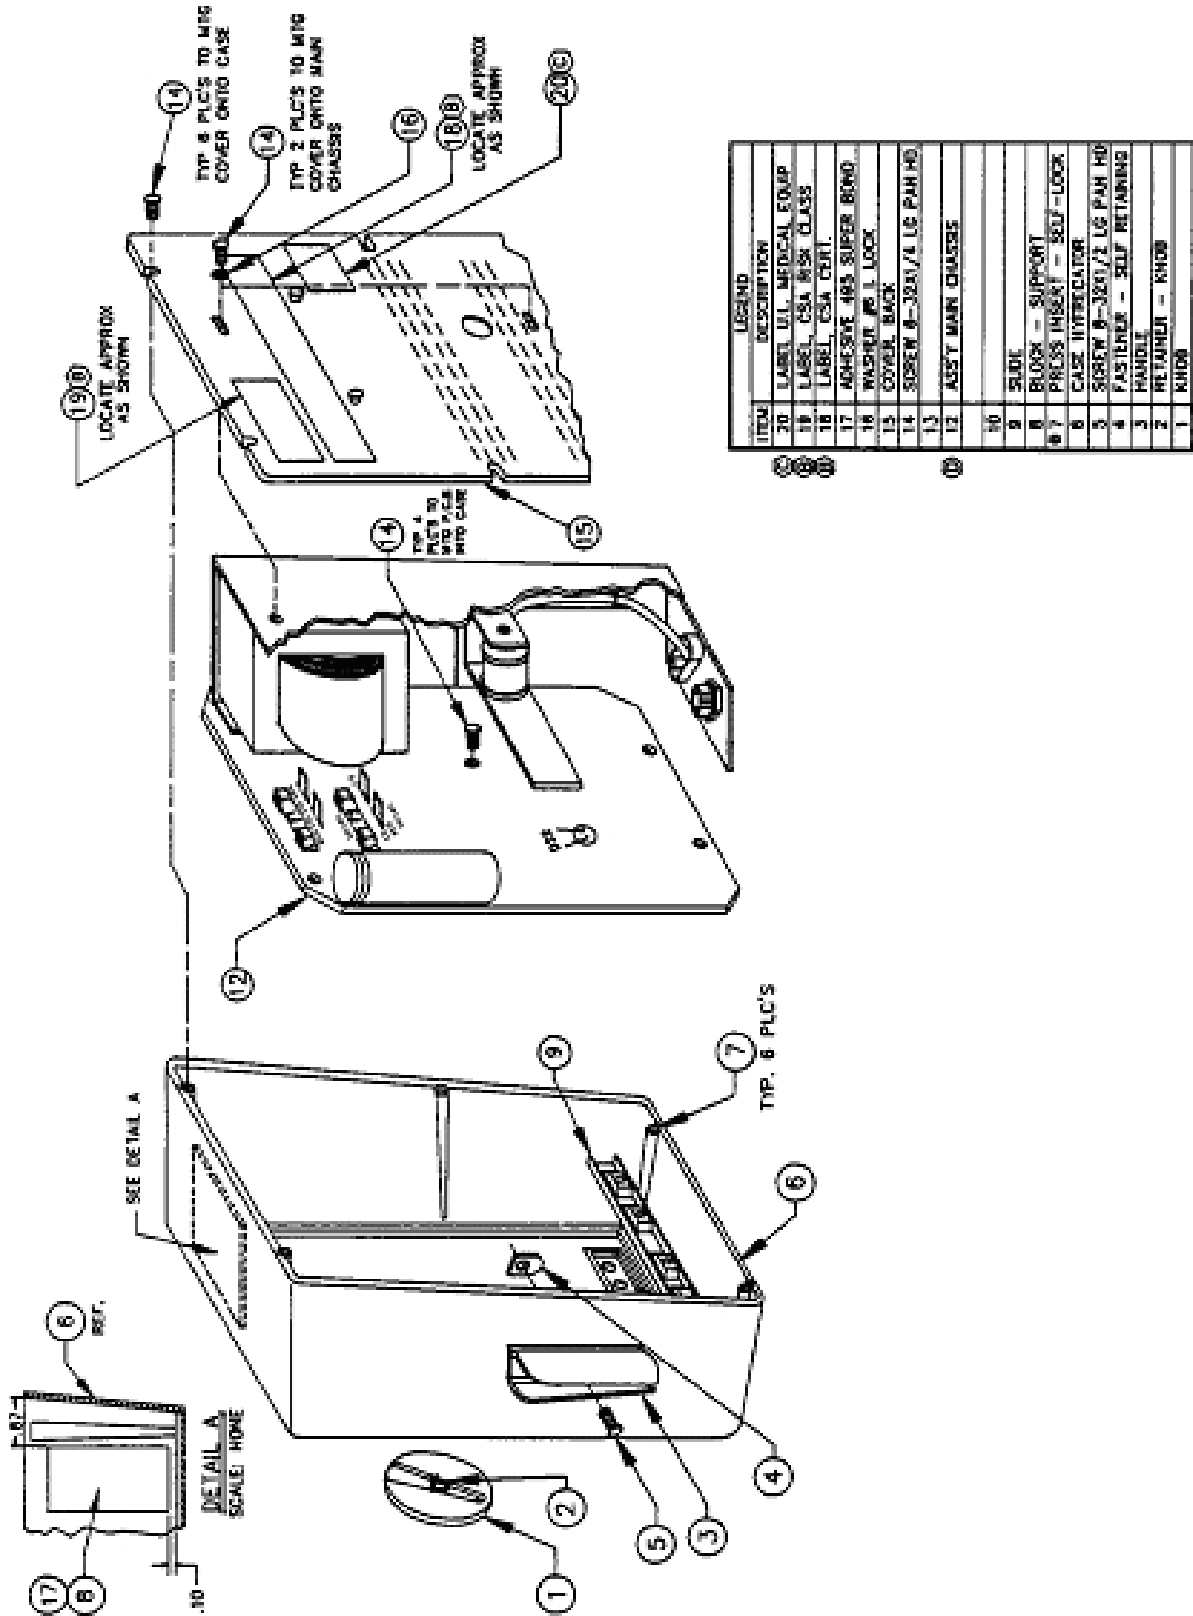

Figure 2-2. Hyfrecator final assembly (110v 50 cycle main housing assembly).
(6) How to generate sound. Audio is generated by pulsing the solenoid (buzzer) on and off from the ac secondary voltage.
c. **Access the Unit.** You can access the entire printed circuit board (pcb) and operative assembly by removing the back screws, 4 pcb screws, and the control knob. Refer to figure 2-2.